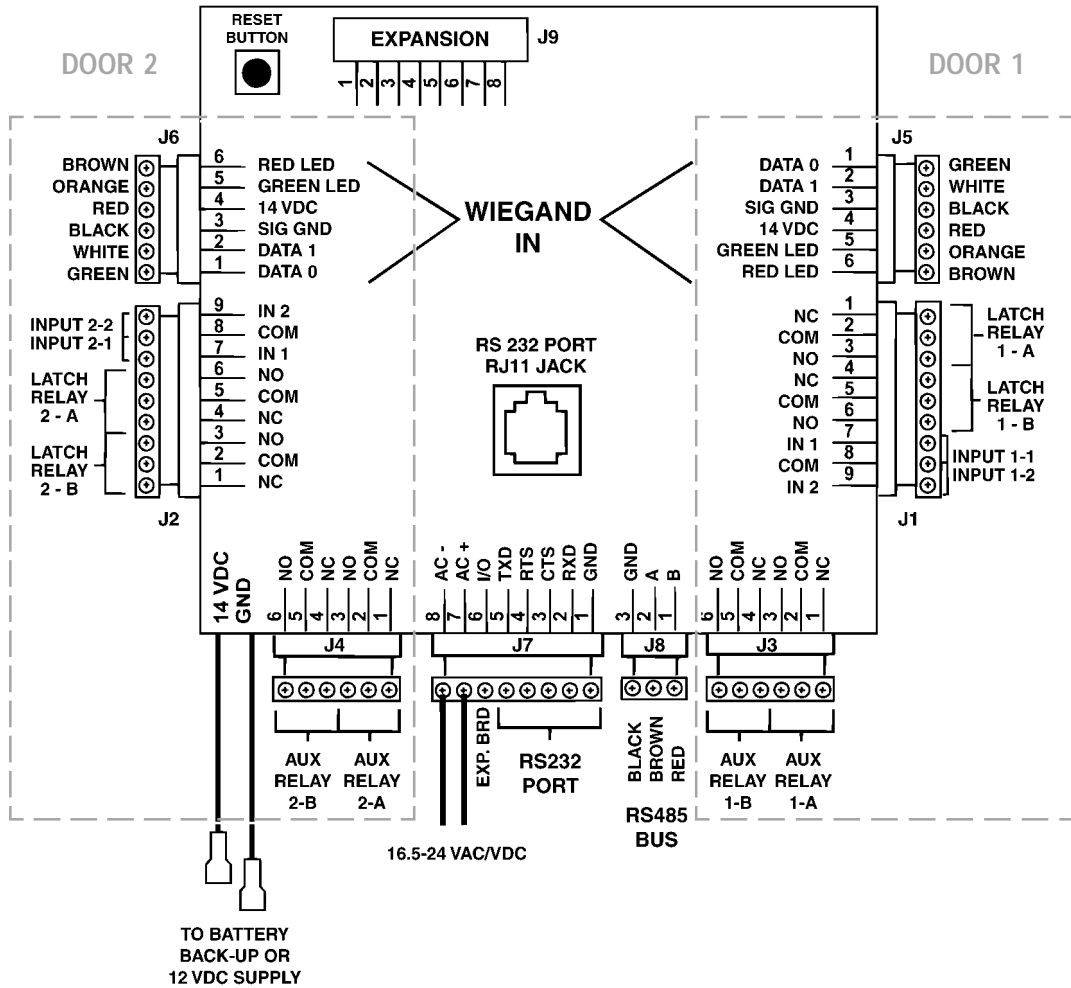

**FIGURE 2**
7. Install two bottom mounting screws (see figure 2).